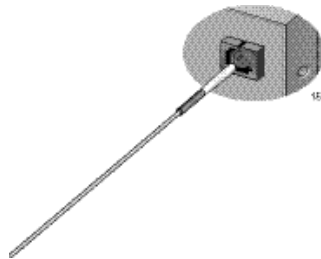

Figure 101. Cleaning a Recessed Ferrule
1. Insert the swab into the adapter as shown in Figure 101 and rub the ferrule tip with the swab.